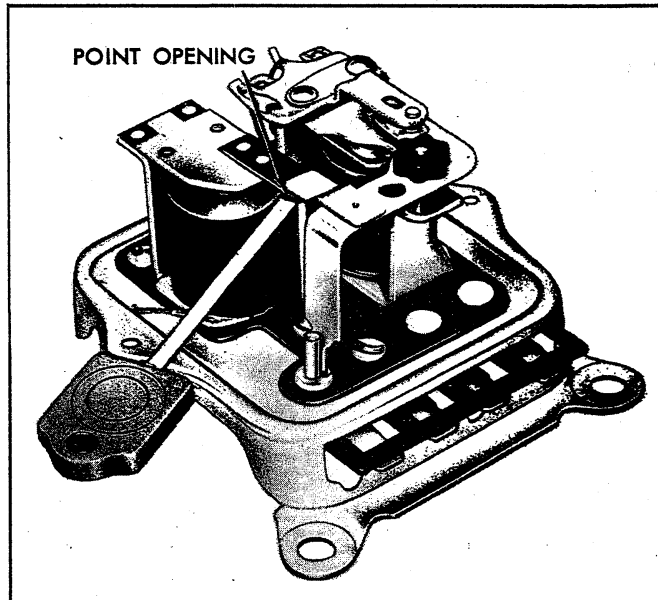

Fig. 19c—Checking Field Relay Point Opening
1. Point Opening: The point opening is checked as illustrated in Figure 19c. If adjustment is necessary, carefully bend the armature stop.